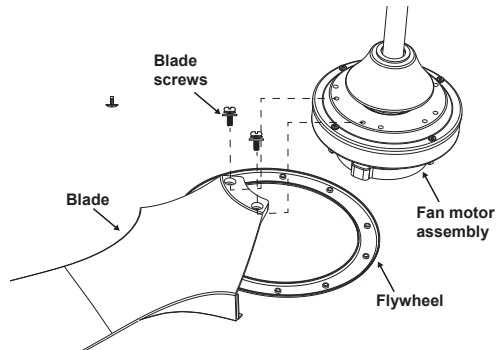

Figure 15
Step 4. Attach the blade with the flywheel to the fan motor assembly using two blade screws. Attach the other blades to the fan motor assembly. (Fig. 15)